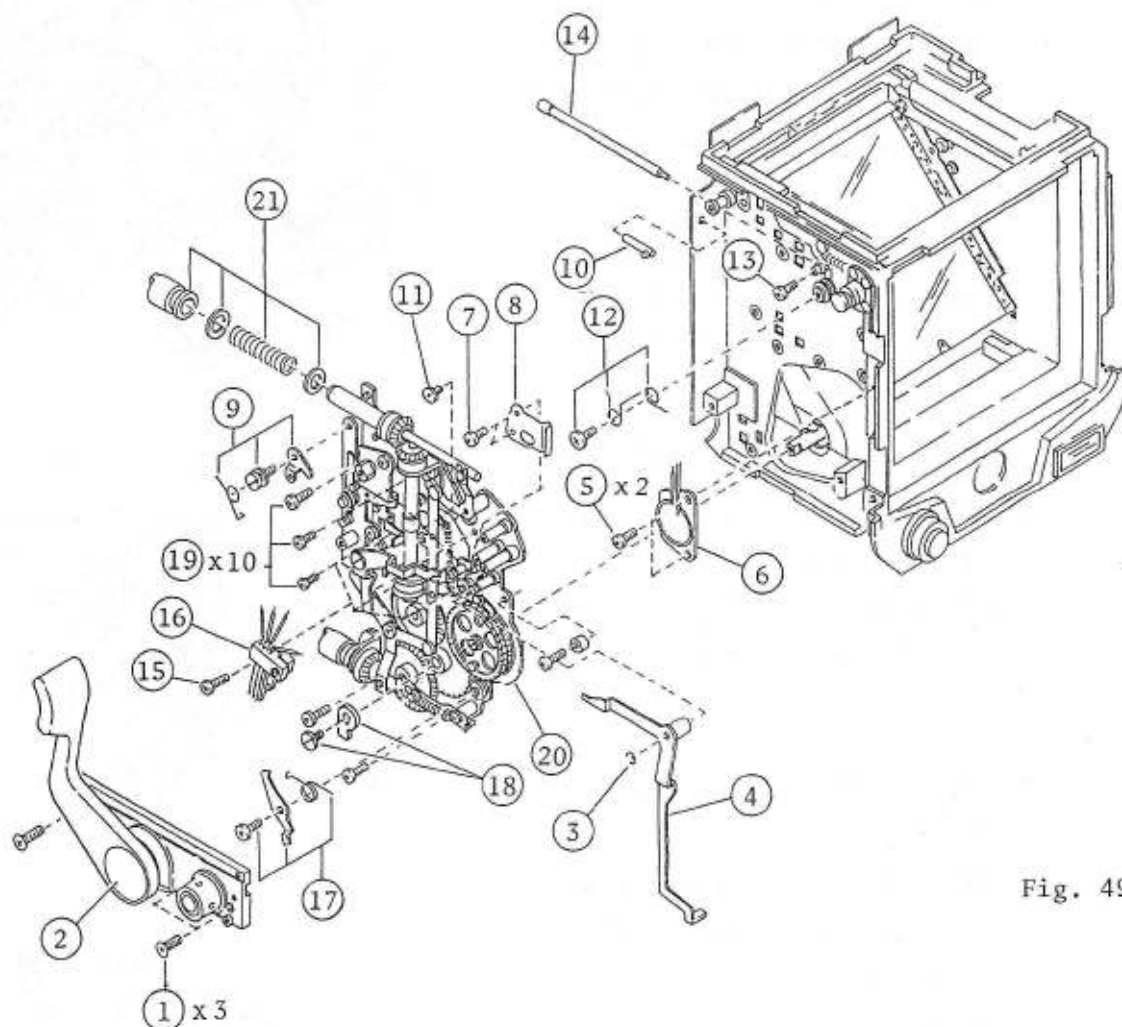
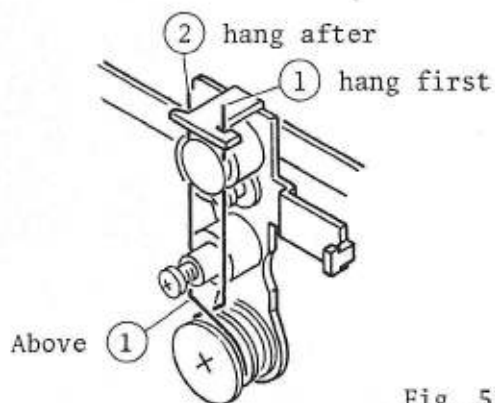

Fig. 49
Fig. 51
- c. The arabic numeral in a circle as shown in Fig. 49 indicates procedure of disassembly.
3. When set the spring for the horizontal screen mask connector, hang (1) first and next (2) as shown in Fig. 51.
4. Check position of (4) lever.
5. Never damage two springs of (B).
6. Don't forget to hang the spring of (17) winding stop pawl (Fig. 49).